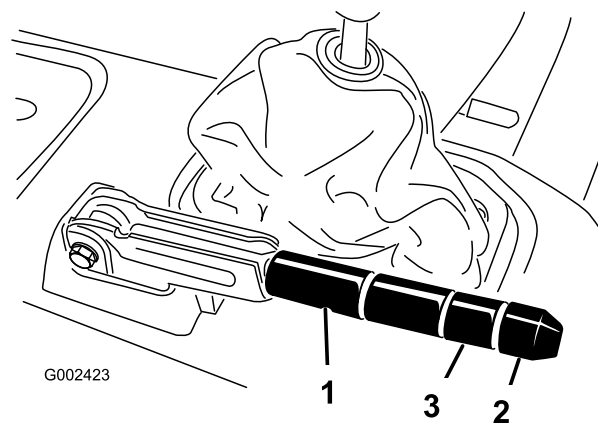

Figure 61
2. Loosen the set screw securing the knob to the parking brake lever (Figure 61).